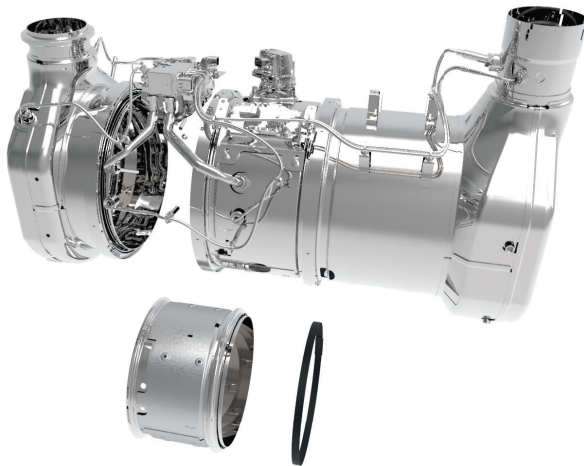

Figure 27 Detaching Diesel Particulate Filter
3. Disconnect the straps securing the DPF. See Figure 27.